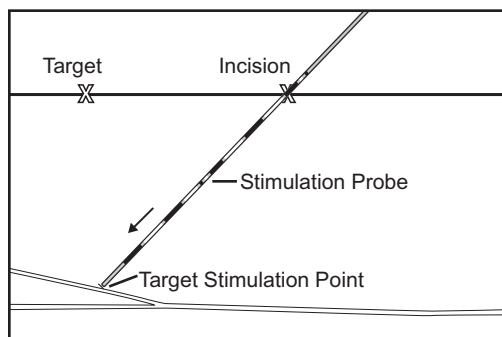

Figure 16: Insertion of the Stimulation Probe
4. Insert the stimulation end of the Stimulation Probe through the incision, moving subcutaneously just past the target stimulation point (see Figure 16).